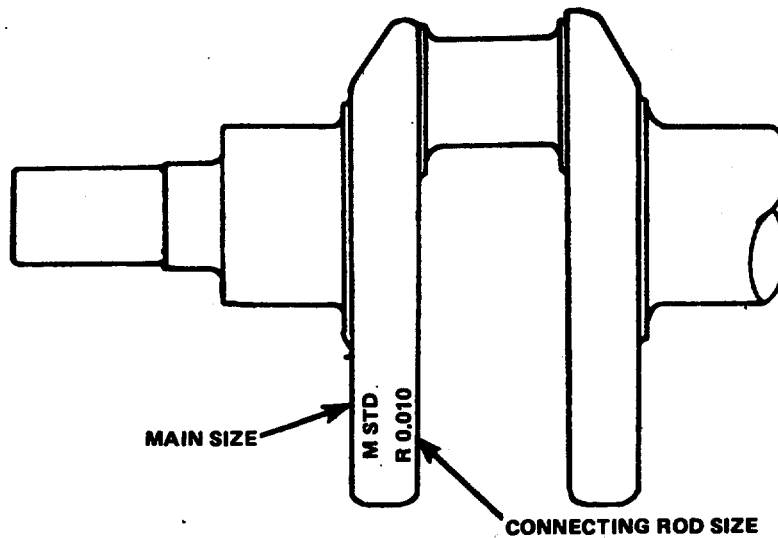

FIGURE 4-47. Front Counterweight Markings.
Bearing shells are available for crankshafts which are 0.010 inch (0.25 mm), 0.020 inch (0.51 mm), 0.030 inch (0.76 mm), or 0.040 inch (1.02 mm) undersize. Crankshafts which are ground undersize in the connecting rod and main bearing journals are marked on the front counter weight (FIGURE 4-47) . If the crankshaft is marked, check the bearing shell to make sure the correct size bearing is used.
- (4) Carefully inspect the crankshaft journals and the thrust flange at the main bearing journal. If the surfaces have damage or scratches, grind the crankshaft. If the crankshaft is ground, oversize main and connecting rod bearings and oversize thrust must be installed.
- (5) Put a mark on the crankshaft after grinding. This will show the correct size for the main and connecting rod bearings. Put this mark on the front counterweight. (See FIGURE 4-47) .